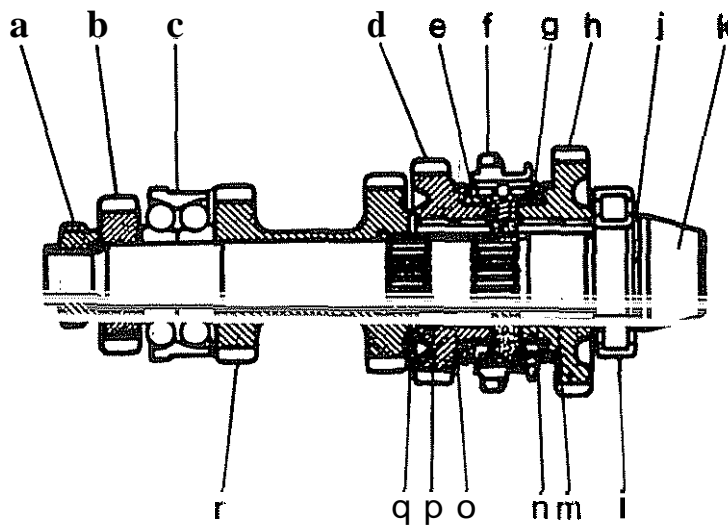

Fig.8 Bevel pinion assembly
8. Measure the thickness of the **adjusting** washer (**q**) **figure 8** which for **this** example is: **2.81** mm. Replace this washer by another with a thickness